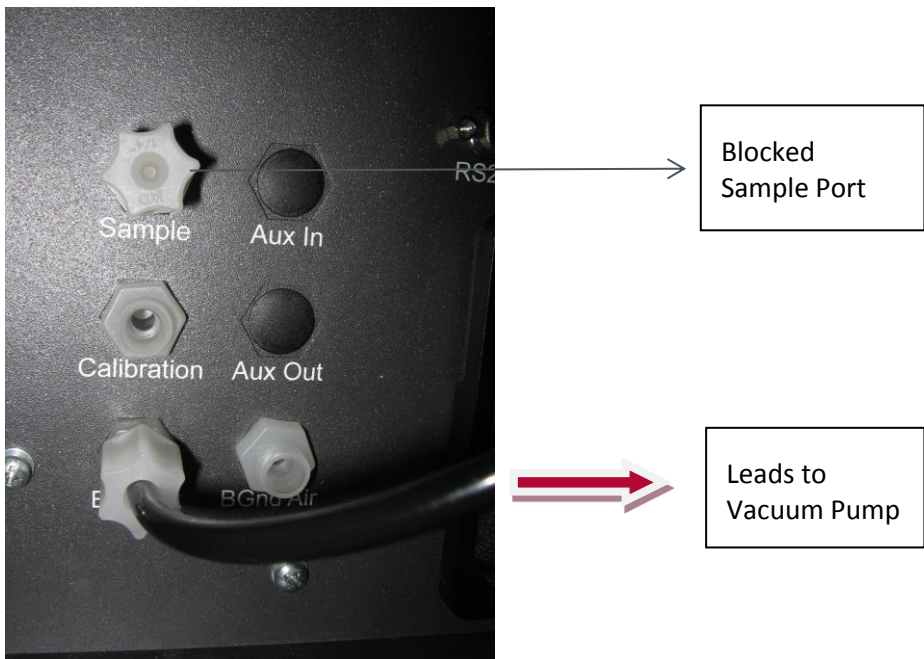

Figure 44 – Rear analyser ports
6. Connect the vacuum source to the exhaust port of the analyser. Block the sample port and switch the vacuum source on (refer to Figure 44).